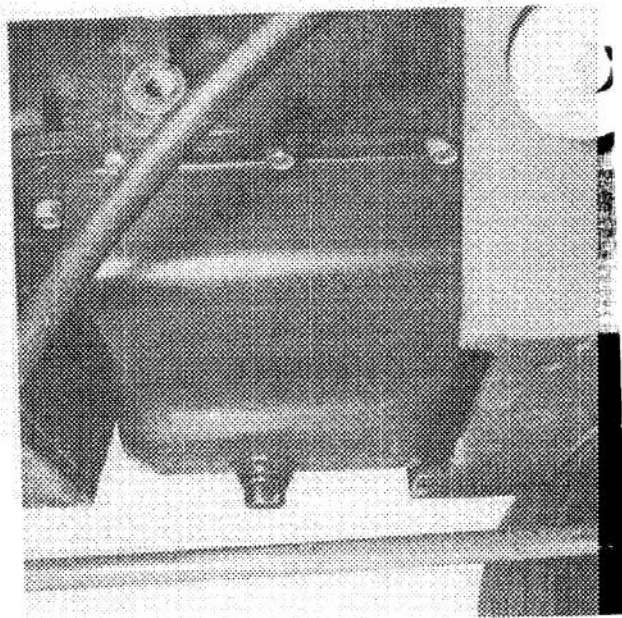

Figure 56
2. Disengage hood latch and open the hood. Set drain pan under the housing and in line with drain plug (Fig. 56).